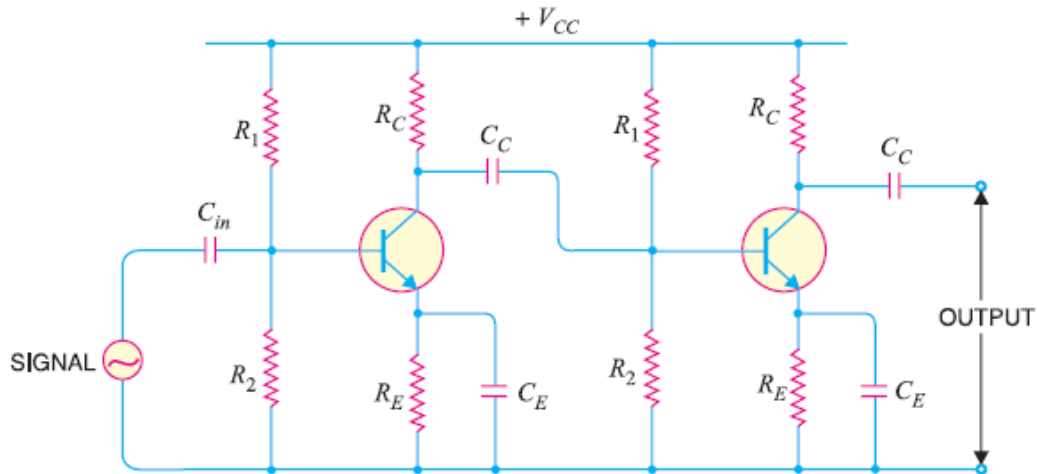

Fig.8: RC coupled transistor amplifier
- Fig.8: shows two stages of an RC coupled amplifier. A coupling capacitor CC is used to connect the output of first stage to the base (*i.e. input*) of the second stage and so on. As the coupling from one stage to next is achieved by a coupling capacitor followed by a connection to a shunt resistor, therefore, such amplifiers are called *resistance - capacitance coupled amplifiers*.